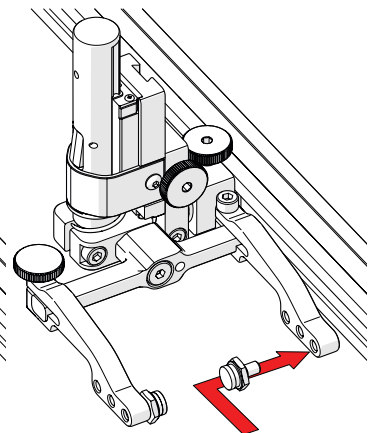

Fig. 106 - Place buttons
3. Position the pivot buttons where necessary (Fig. 106). When a narrow scanning footprint is required, use the pivot button holes closest to the yoke.